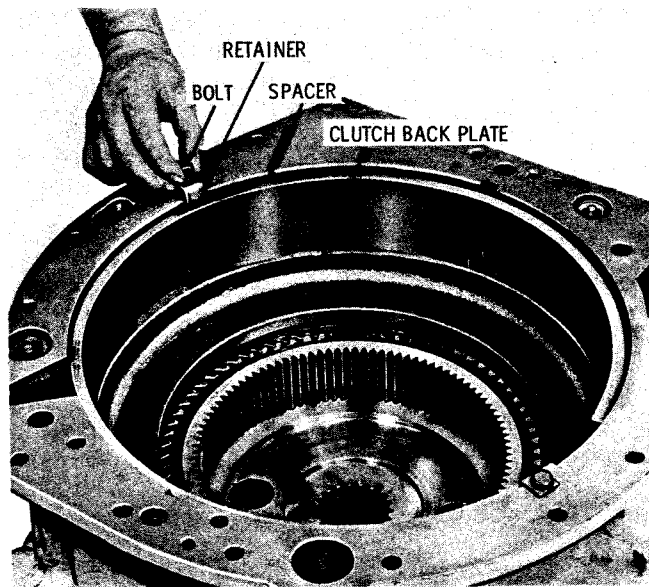

Fig. 5-77. Removing high-splitter clutch back plate spacer retainers
(1) Turn the transmission housing assembly over, front end up, and rest it on wood blocks. Remove two bolts and retainers that secure the high-splitter clutch back plate spacer (fig. 5-77). Remove the spacer and high-splitter clutch back plate.